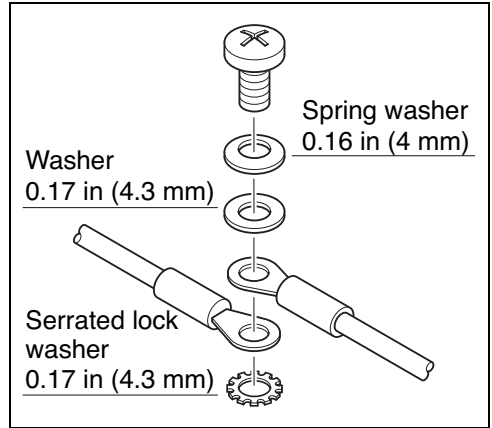

Fig. 37
- ▶ Connect the protective conductor to the PE connection (M4, tightening torque 18 lbf-in (2 Nm)), see Fig. 37. The shield can be applied to the PE connection when a shielded line is mandatory according to the control manufacturer.